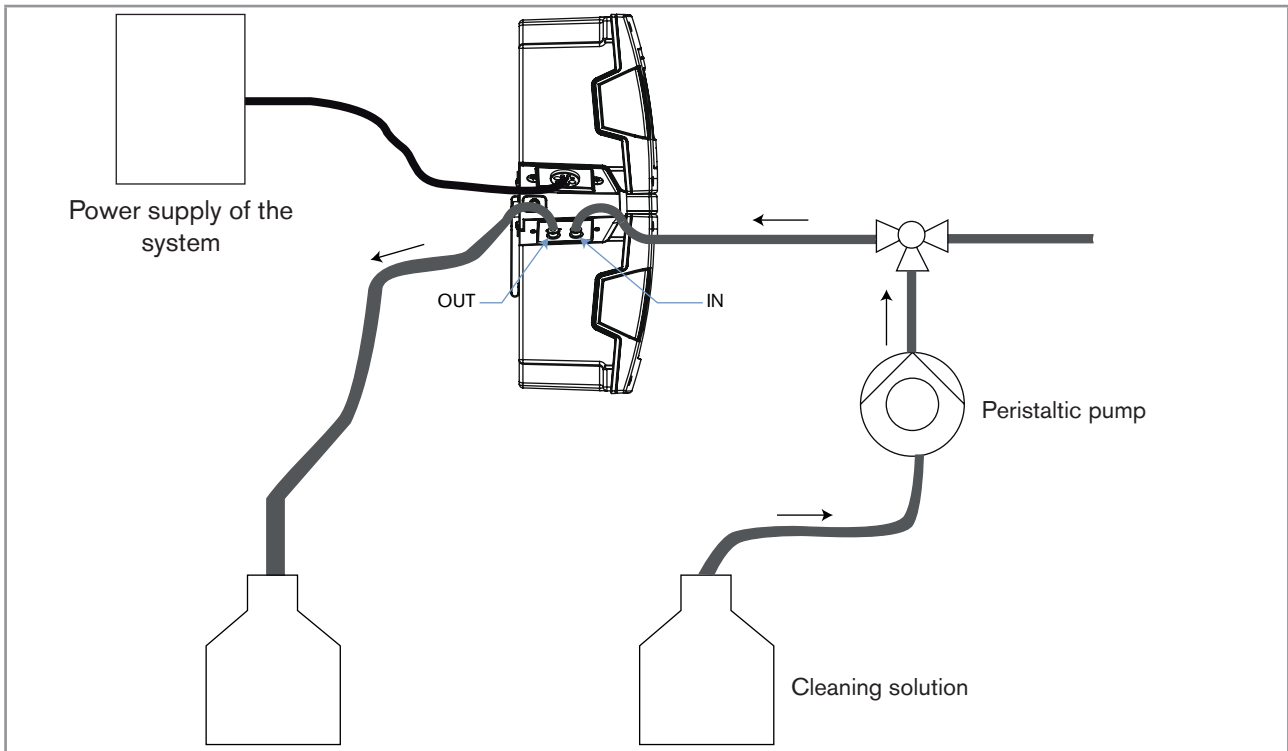

Fig. 5: Installation for the manual cleaning of the wetted parts of the product
3. Connect a peristaltic pump in the water sample inlet circuit of the system, as shown in Fig. 5. If the fluidic connections are not done correctly, the product and the system can be damaged because the pressure in the product and in the system is too high.